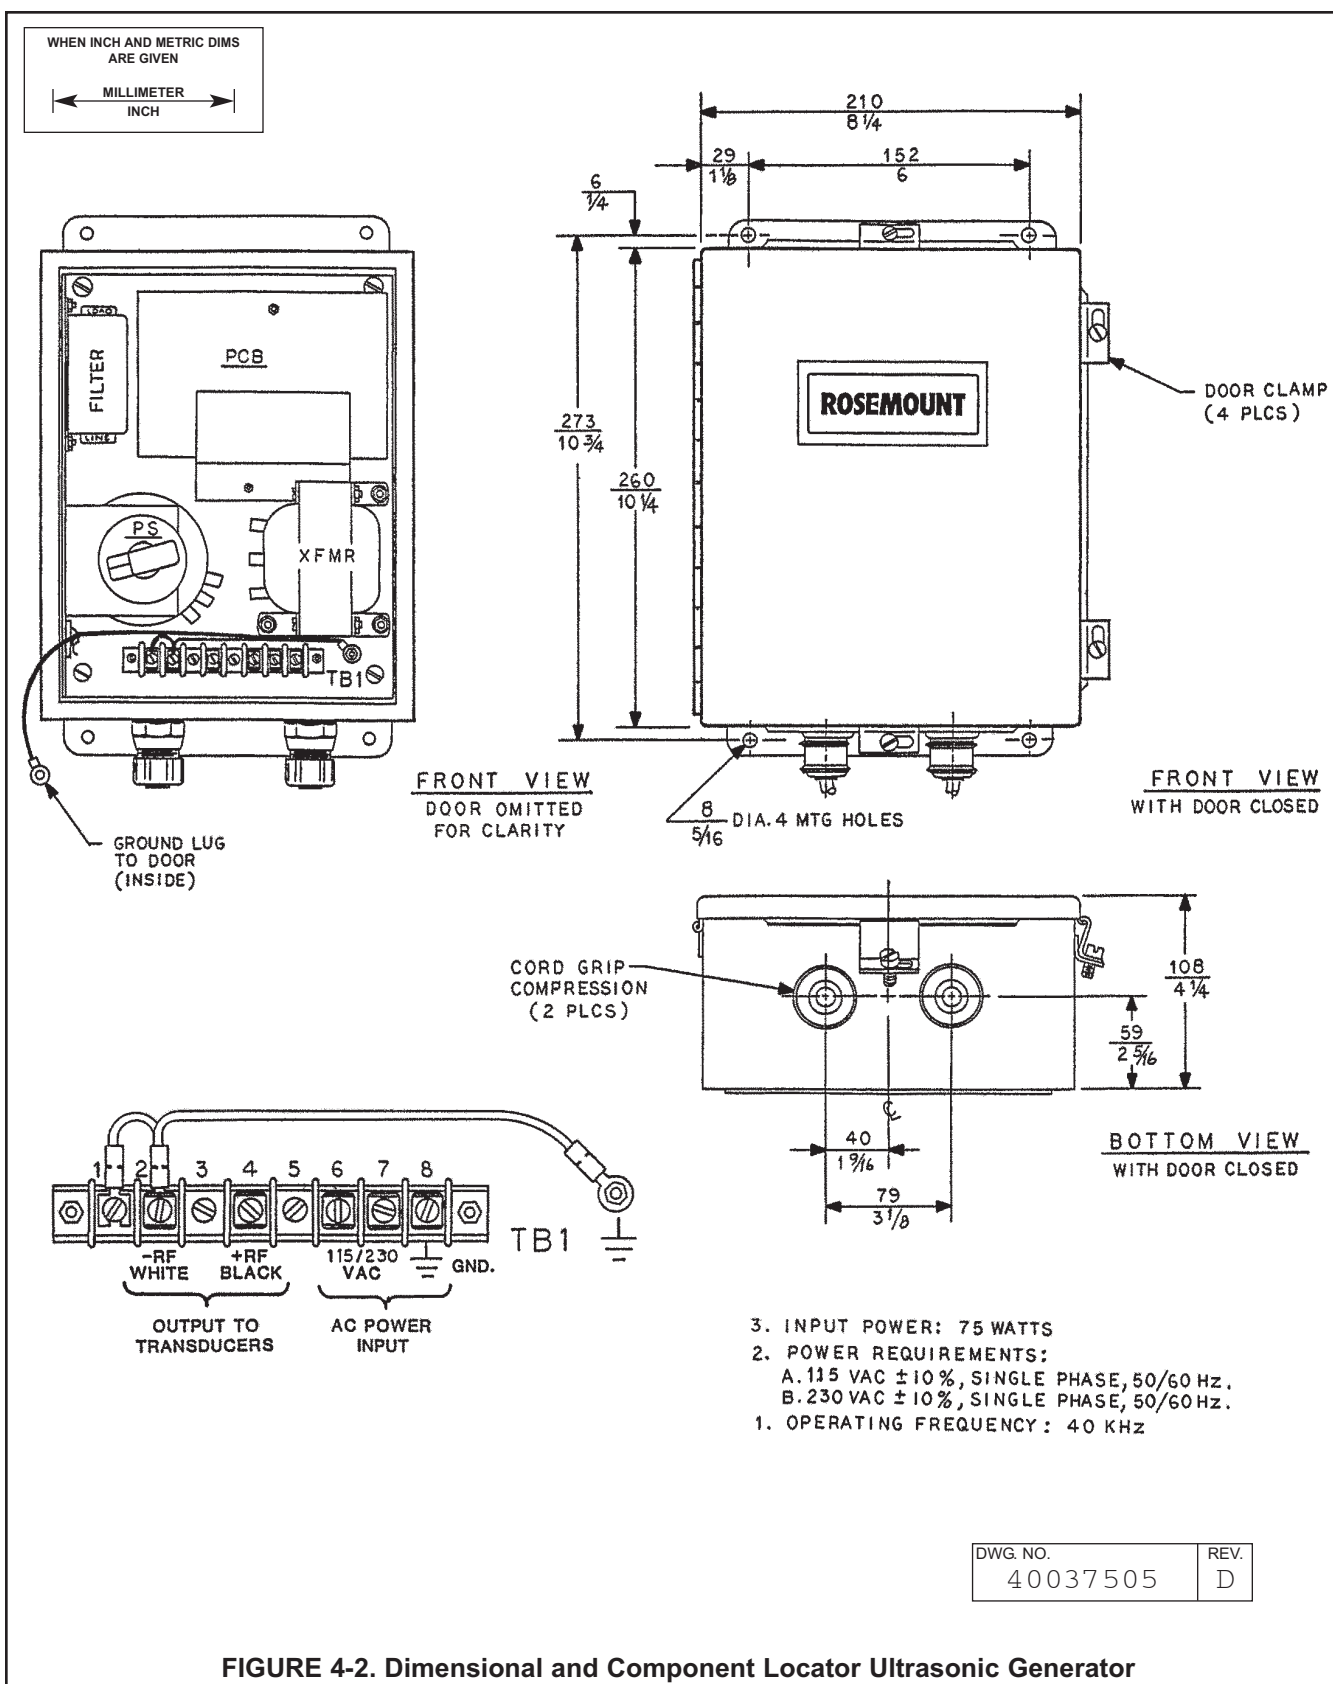

FIGURE 4-2. Dimensional and Component Locator Ultrasonic Generator
2. **Electrical Installation.** An external line switch should be installed to disconnect power from the generator for maintenance or periods of non-use. Apply input power (refer to Figure 4-2) as follows: Ground to TB1-8, hot to TB1-6, and neutral to TB1-7.
1. Output Power Adjustment. The output power adjustment on the ultrasonic generator is located on the powerstat. The powerstat is adjusted with the knob marked as PS: (Refer to Figure 4-2), and determines the cleaning efficiency of the unit by adjusting the power input of the generator. Proper adjustment is made by turning the powerstat knob counter-clockwise (minimum power position) and gradually increasing the power, by turning the knob clockwise, until the power is sufficient to keep the electrode clean. This is usually accomplished over a period of several days.